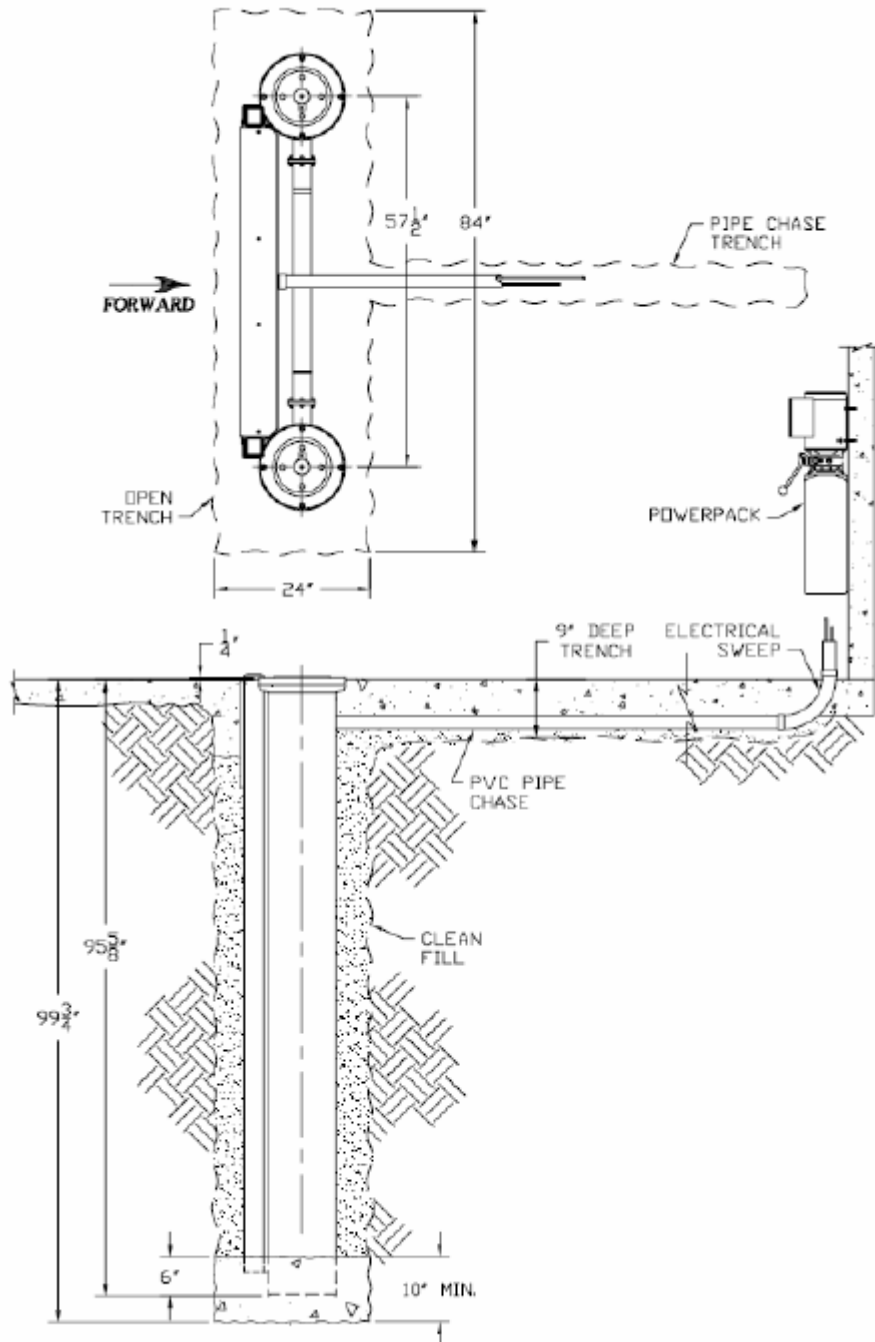

Figure 4 – Plan and Excavation
1. Excavate the location desired with minimum dimensions of 24"L x 84"W x 100"D as per **Figure 4**.
3. Slowly lower the lift into the pit. Secure the lift so that it is suspended into the pit ensuring that 1/4" will be above floor grade. **Figure 4.**
5. Pour concrete around the base of the lift ensuring that a minimum of 10" is poured, with at least 6" encasing the bottom of the lift. **Figure 4.** Allow a minimum of 24hrs for concrete to cure. Refer to concrete specification for drying time.
7. In the 9" deep trench, layout PVC electrical tubing along the trench and up the wall to at least 6" above the surface. **Figure 4**